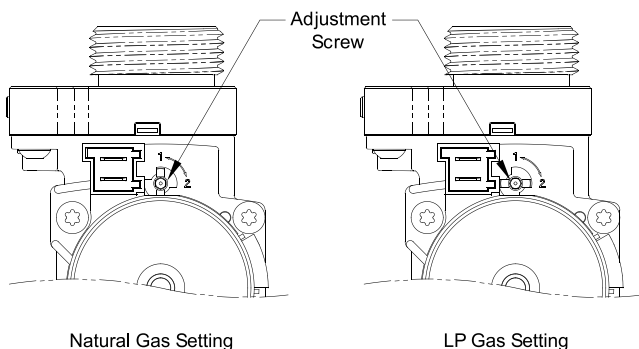

Figure 14-2: Gas Valve Fuel Setting
- Use 2.5 mm hex wrench to adjust gas valve setting from "1" to "2" (Figure 14-2).